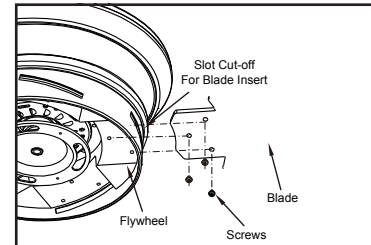

Figure 12
1. Insert the blade through the slot cut-off in the center flywheel, align the three screw holes in the blade with the screw holes in the flywheel and secure with the screws provided. (Figure 12)